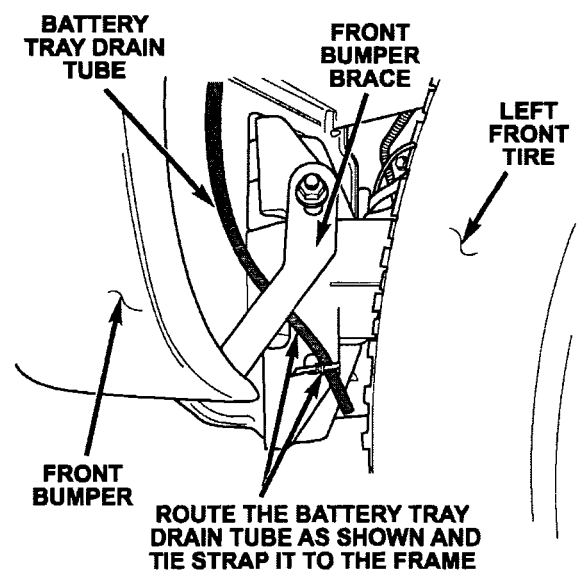

Figure 16
14. From inside the left wheel well housing, secure the battery tray drain tube to the frame rail bracket with the provided plastic tie strap (Figure 16).